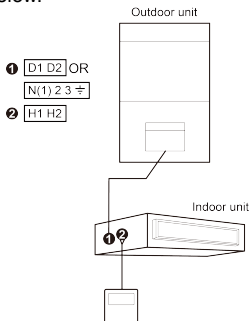
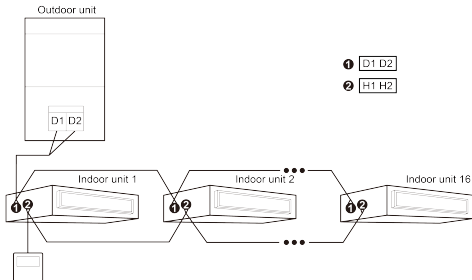
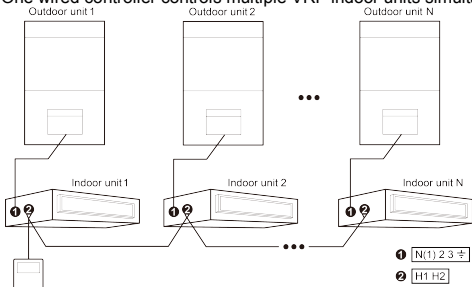

Fig. 5.4 One wired controller controls one indoor unit
Fig. 5.5 One wired controller controls multiple VRF indoor units simultaneously
Fig. 5.6 One wired controller controls multiple U-Match simultaneously
- (1) The wiring methods in fig. 5.4 and fig. 5.6 can be adopted for the wired controller connecting U-Match unit.
- (2) The wiring methods in fig. 5.4 and fig. 5.5 can be adopted for the wired controller connecting VRF unit.
- (3) Only the wiring methods in fig. 5.4 can be adopted for the wired controller connecting Big Duct Type unit or Air-cooled Packaged unit, that is, one wired controller can control only one indoor unit, cannot control multiple indoor units of different systems.
- (4) When one wired controller controls multiple indoor units simultaneously, the wired controller can connect to any one indoor unit, but the connected indoor unit must be the same series indoor unit. The total quantity of indoor unit controlled by wired controller can't exceed 16 sets, and the connected indoor unit must be within the same indoor unit's network. Wire controller must set quantity of group control indoor units. Please refer to 5.2.2 Parameter Setting.
- (5) The terminal of the wire controller is non-polarized and cannot be connected to strong electric.